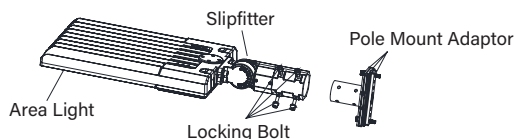

Figure 5
1. Remove the pole mount adaptor from the slipfitter, if not already removed during **Mounting Bracket Installation**. (Figure 5)